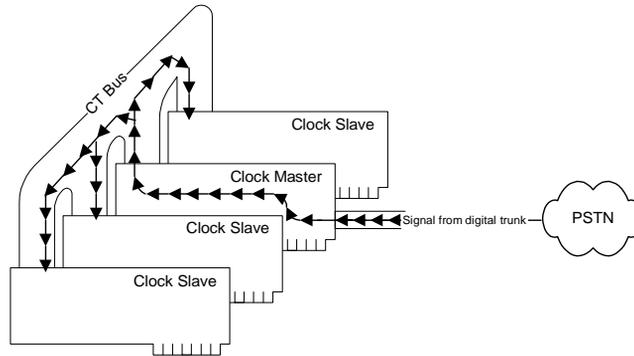

Figure 17. Timing Reference from NETWORK
- It may originate within the public network, and enter the system through a digital trunk. This is called a *NETWORK* timing reference (See Figure 17.)